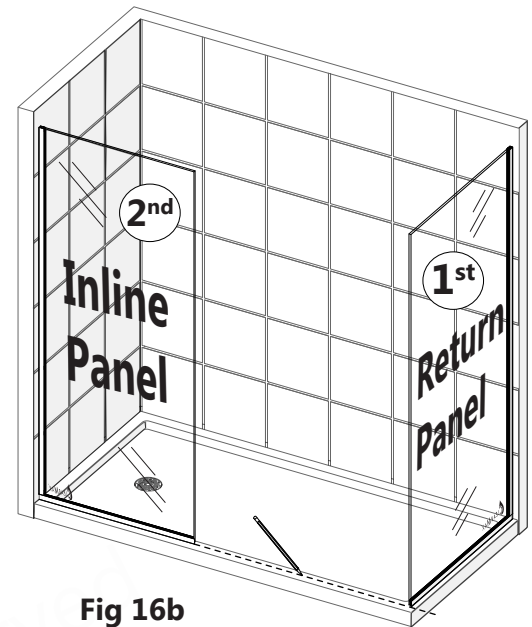

Fig 16b
- Centering the panels on the threshold may be acceptable. For proper alignment, it is recommended to install the return panel first (for example, as shown in **Fig. 16b**) in order to align the inline panel. Mark a line on the threshold to determine where to install the second panel.